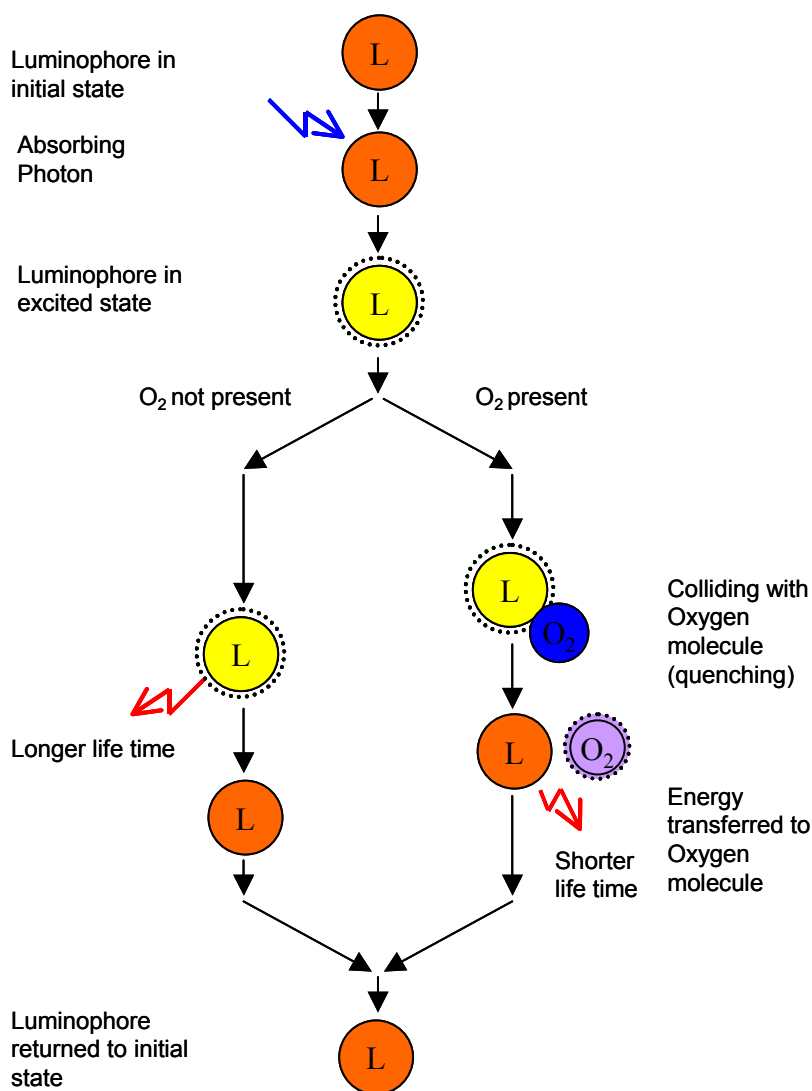

Figure A 1 Dynamic Luminescence Quenching
- The Sensor Foil is changed by unscrewing the 2 hex screws in the securing plate, refer Figure A 1. Remove the securing plate and the old foil.